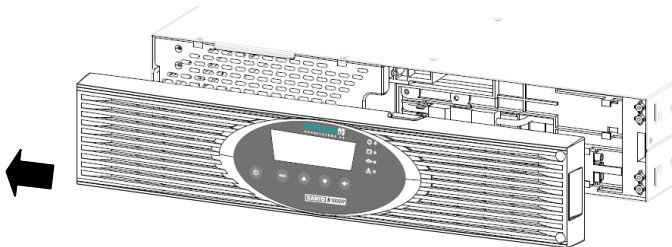

Figure 16: Removing the front cover from the UPS system
1. Remove the front cover from the UPS system (see Figure 16).